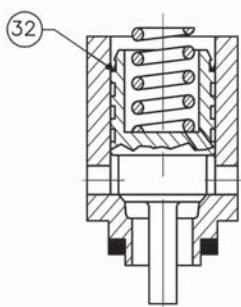
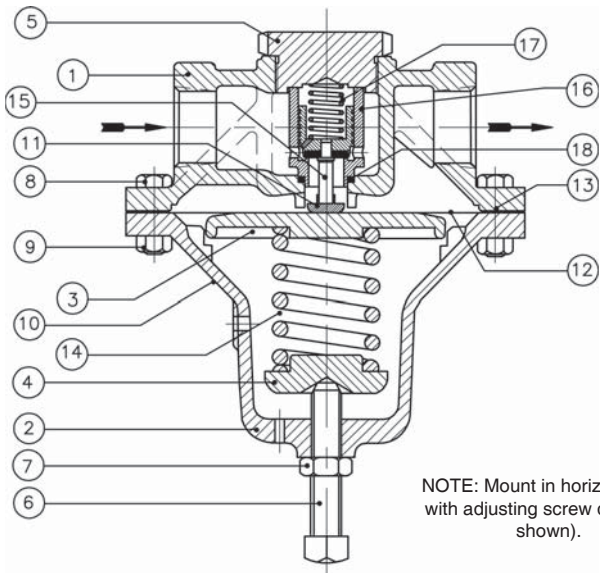
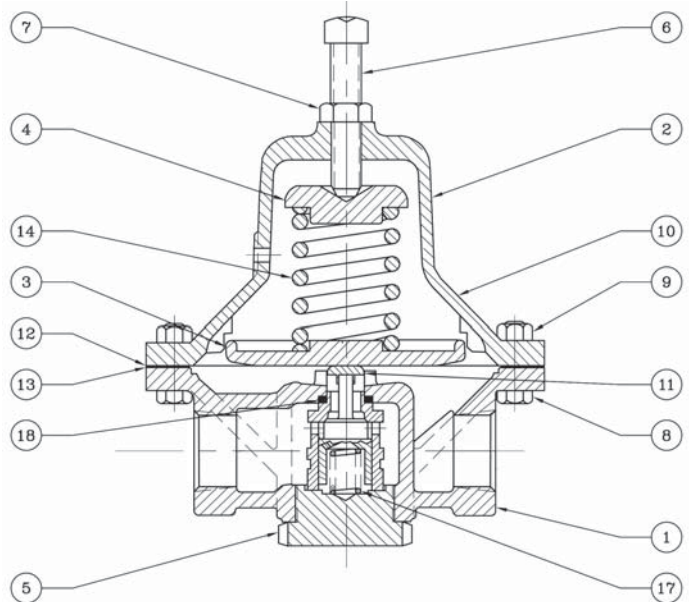

Figure 3: Option-4 - Stabilizer
Figure 4: Option D-5 or D-36 Cryogenic Model D Metal Diaphragm
Figure 2: Basic Model D - Comp Diaphragm
3. Refer to Figure 2 for basic regulator. Refer to Figure 4 for cryogenic regulator. For blow-ups of Option-4 Stabilizer, refer to Figure 3.
7. Reinstall the pusher plate (11). Ensure proper position of flat surface being downwards. Ensure centered.
8. Reinstall a new cylinder gasket (18). Press firmly and evenly into place using the cylinder (16). Do not use a "homemade" cylinder gasket. Pipe sealant may be lightly coated to cylinder gasket (18) surfaces prior to installation, except when utilized as Item 6 above.
9. Reinstall the cylinder (16) concentrically within the body cap (5) opening.
10. If supplied with Opt-4 Stabilizer, install new stabilizer seal (32) properly oriented onto piston (15). See Figure 4.
11. Slide the piston (15), including stabilizer seal (32) if supplied, slowly into place, assuring that the piston (15) post slides into the female groove of the pusher plate (11). Use thumbs to ease stabilizer seal (32) into cylinder (16).
12. Place piston spring (17) into piston (15) cavity.
13. Use pipe thread sealant applied to the body cap (5) threads. Thread body cap (5) into body (1). For all sizes of the **Ductile Iron and SST** body caps -impact until body cap (5) is metal to metal against body (1) at the body cap (5) shoulder.